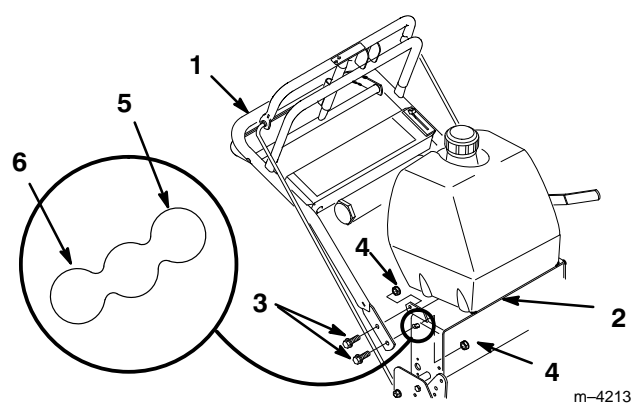

Figure 2
- Position handle outside frame and align mounting holes. Select desired lower mounting holes for high, medium or low position according to operators height (Fig. 2).
- Secure each side with (2) 3/8–16 x 1" (26mm) bolts and (2) 3/8–16 locknuts (Fig. 2).